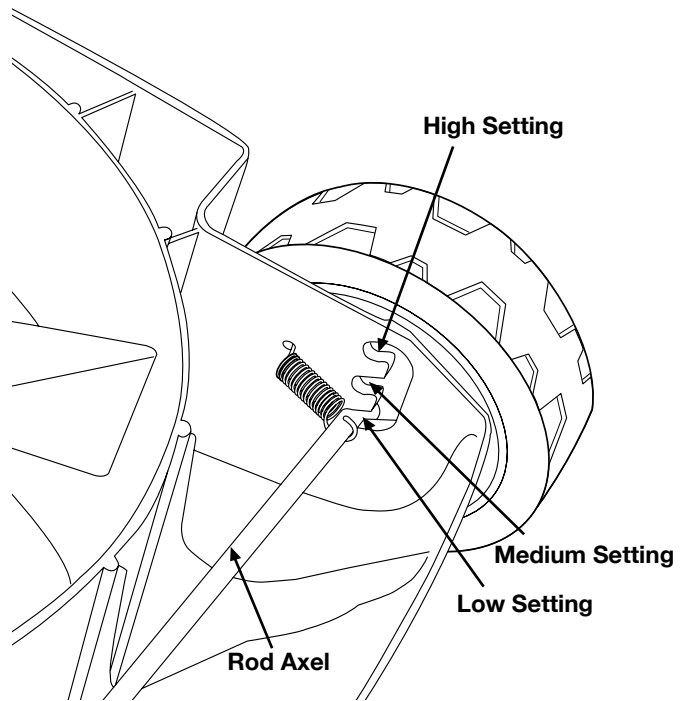

Figure 14
3. Place the lawn mower on one of its sides. (See Fig.14)